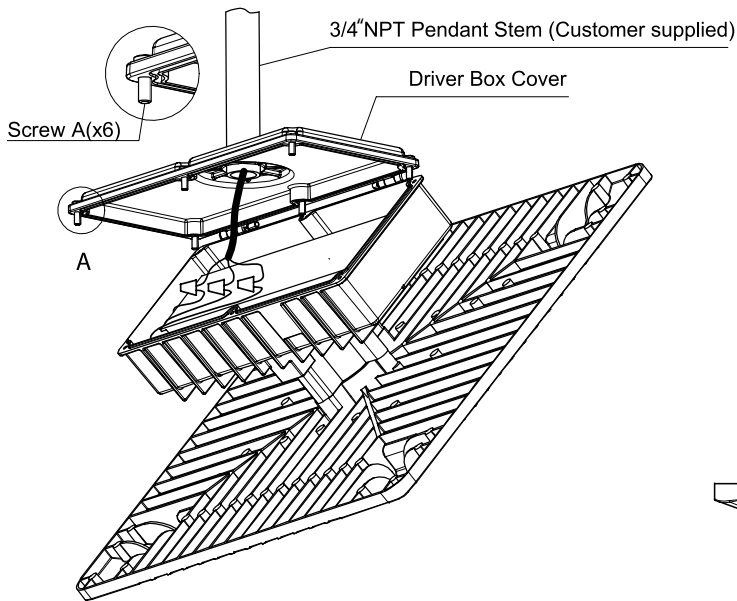

Figure 1
1. Remove Screws A (6) on the driver box and open the Driver Box Cover. See Figure 1.
2. Feed the customer supplied pendant stem and leads through the top 3/4" NPS opening of driver box. Tighten the pendant stem. See Figure 1.